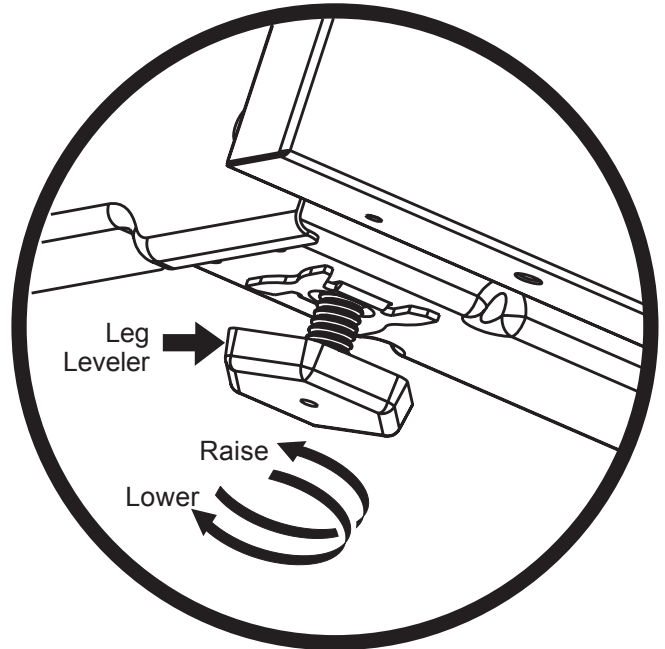

Figure 7: Adjusting appliance height
3. Level the range, if necessary, by adjusting the 4 leg levelers with a wrench (Figure 7).